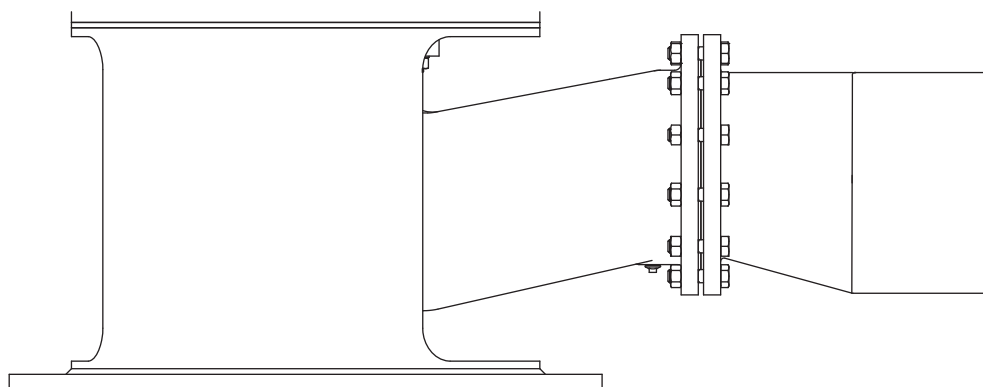

Figure 4: Eccentric reducer to suction flange.
- If the inside diameter of the suction pipe is larger than the suction connection of the pump, an eccentric reducer should be applied to prevent air pockets and whirls. See figure 4.